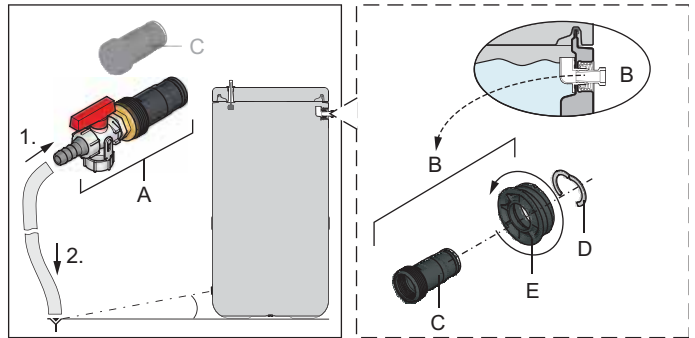
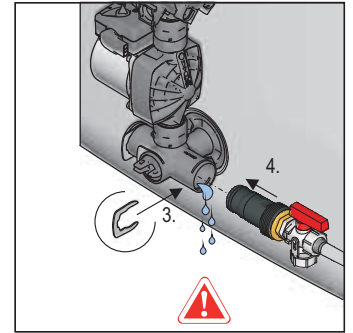

Fig. 5-1 Connecting the drain hose
Fig. 5-6 Assembling the KFE filling connection in the connecting angle
- Connect the outlet hose to the **KFE filling connection (Accessory KFE BA)**(figure 5-1, item A) and run the point to a drain point that is at least soil deep.
If no **KFE filling connection** is available, the connection piece (figure 5-1, item C) can be removed from the safety overflow (figure 5-1, item B) and used.
Tab. 5-1 Legend from figure 5-1 to figure 5-6
- Insert the **KFE filling connection** into the connecting angle and secure using a retaining clamp (figure 5-6).